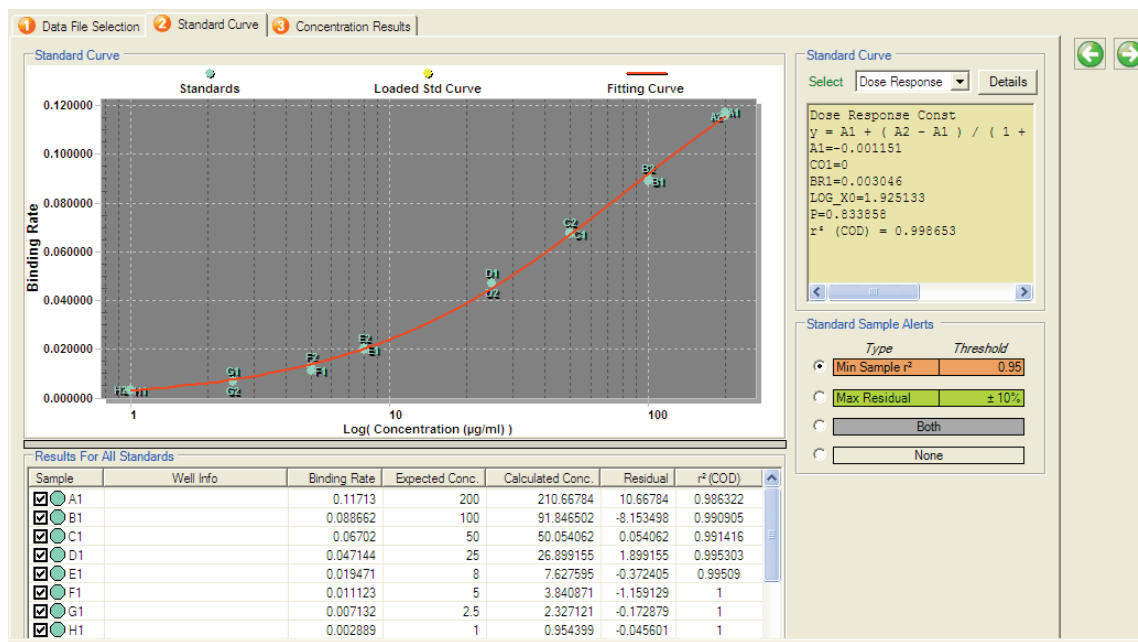

Figure 3.14 Quantitation Data Analysis window, Standard Curve tab
- To generate the standard curve, click the Standard Curve tab in the Quantitation Data Analysis window (Figure 3.14). Alternatively click the  arrow to advance to the tab.